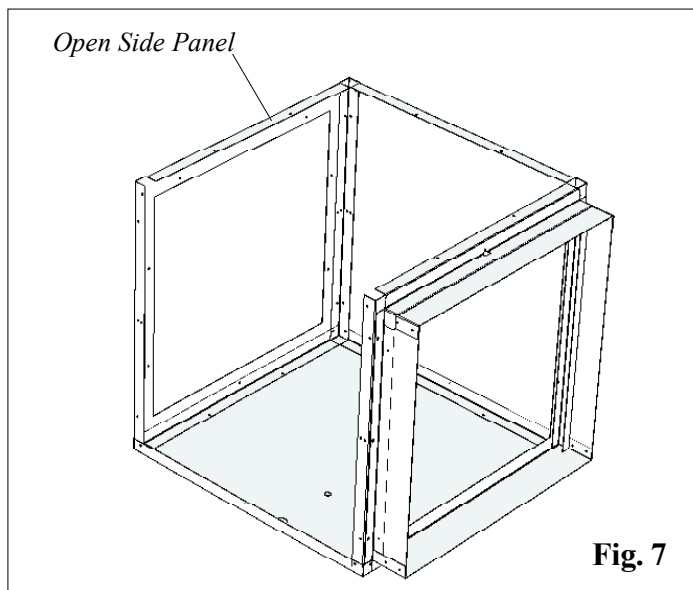

Fig. 7
4. Place the remaining panel, (in this case the blower access panel) in the bottom panel and into the corner of the solid panel. See Fig. 7. Make sure that the panel is in the upright position. There are no cover mounting holes in the bottom edge of this panel. Hold the panel into place with one Tek screw in the middle hole of the solid panel and one in the bottom middle hole of the blower access panel.